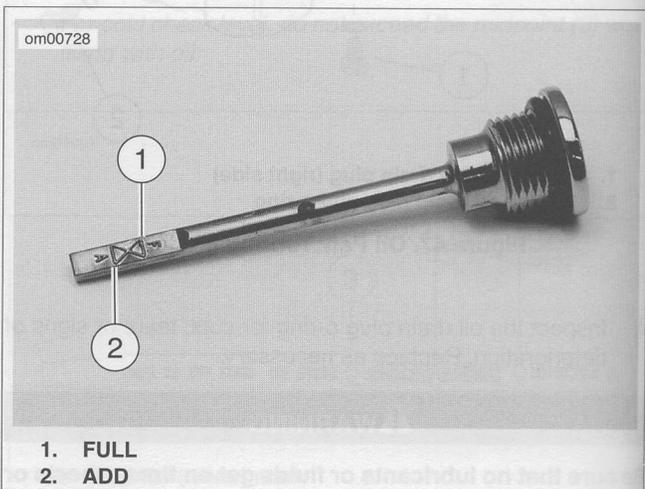

Figure 50. Transmission Filler Plug/Dipstick Lubricant Level
2. See Figure 50. Remove the threaded filler plug/dipstick.